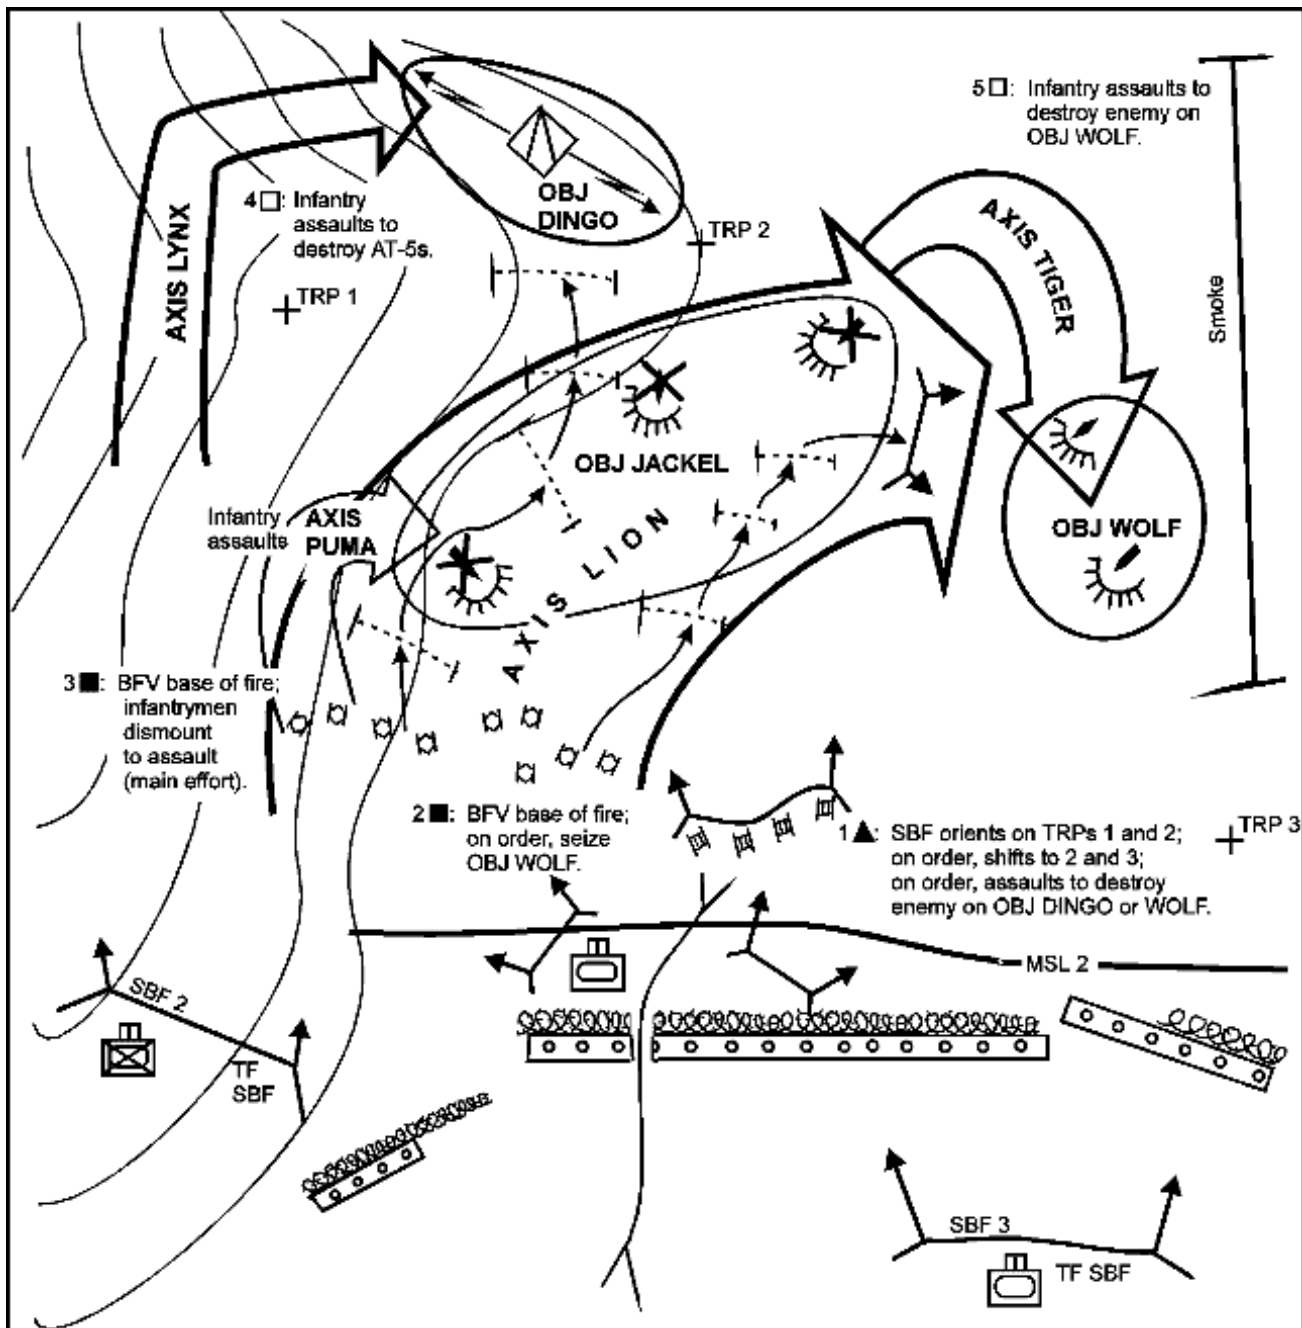

Figure 3-25. Example of a company team conducting an assault of an attrited MRC as the assault force in a task force deliberate attack.
- If the company team is conducting an assault as part of a task force attack, other company teams within the task force will normally have the responsibility to suppress the enemy on the objective area from designated support by fire positions. These teams may be the same support forces that protected the breach force; however, terrain factors may require them to reposition to provide effective support for the assault force. (**NOTE:** Figure 3-25 illustrates company teams providing this type of protective fires.)
NOTE: Figure 3-25 illustrates various phases of the assault; these actions, which are covered in the following discussion, include the assault breach, the aboveground fight, and the belowground fight.